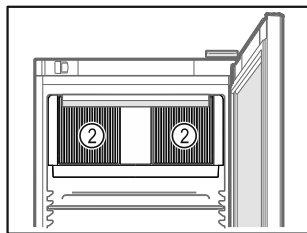

Fig. 59
- ☐ Ventilation slots Fig. 59 (2) for recirculation fan in the interior must be kept clear.